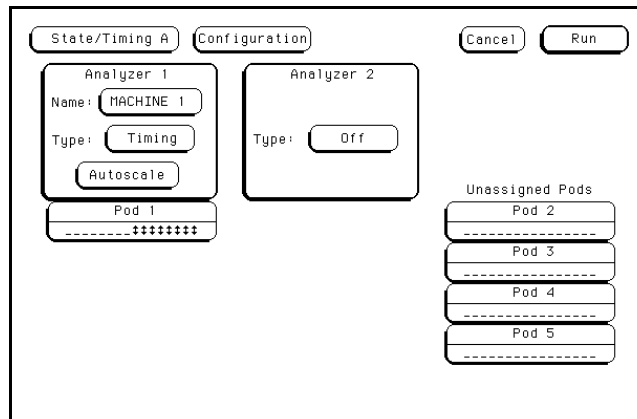

Figure 3-35. Configuration Screen
- Assign the pod under test to Analyzer 1 in the Configuration Screen as shown in figure 3-35. Refer to steps *a* and *b* if unfamiliar with menus.
2. Assign the pod under test to Analyzer 1 in the Configuration screen as shown in figure 3-35.